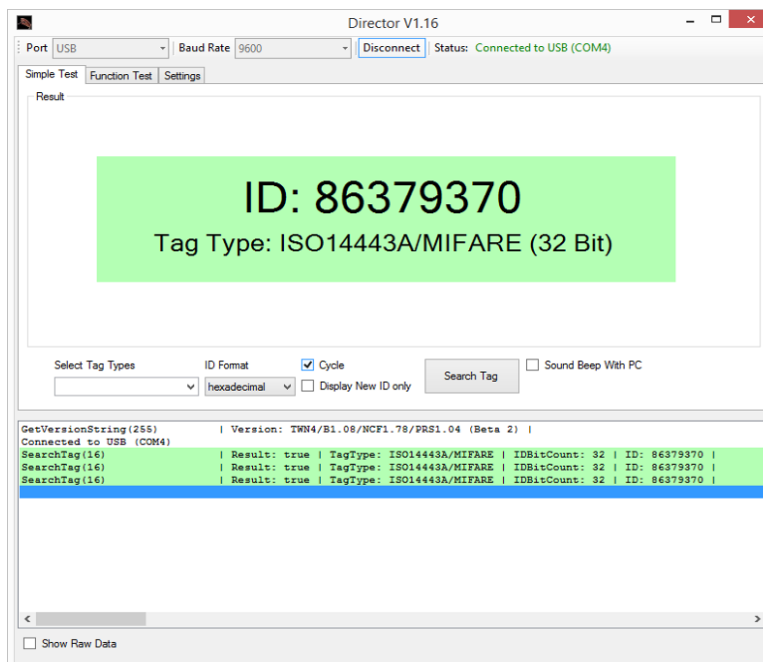

Figure 2.3.: Reading Card IDs with Director Software
- Now just place a transponder near the antenna, and the Director software will print the UID out in the log window, as shown on Figure 2.3.